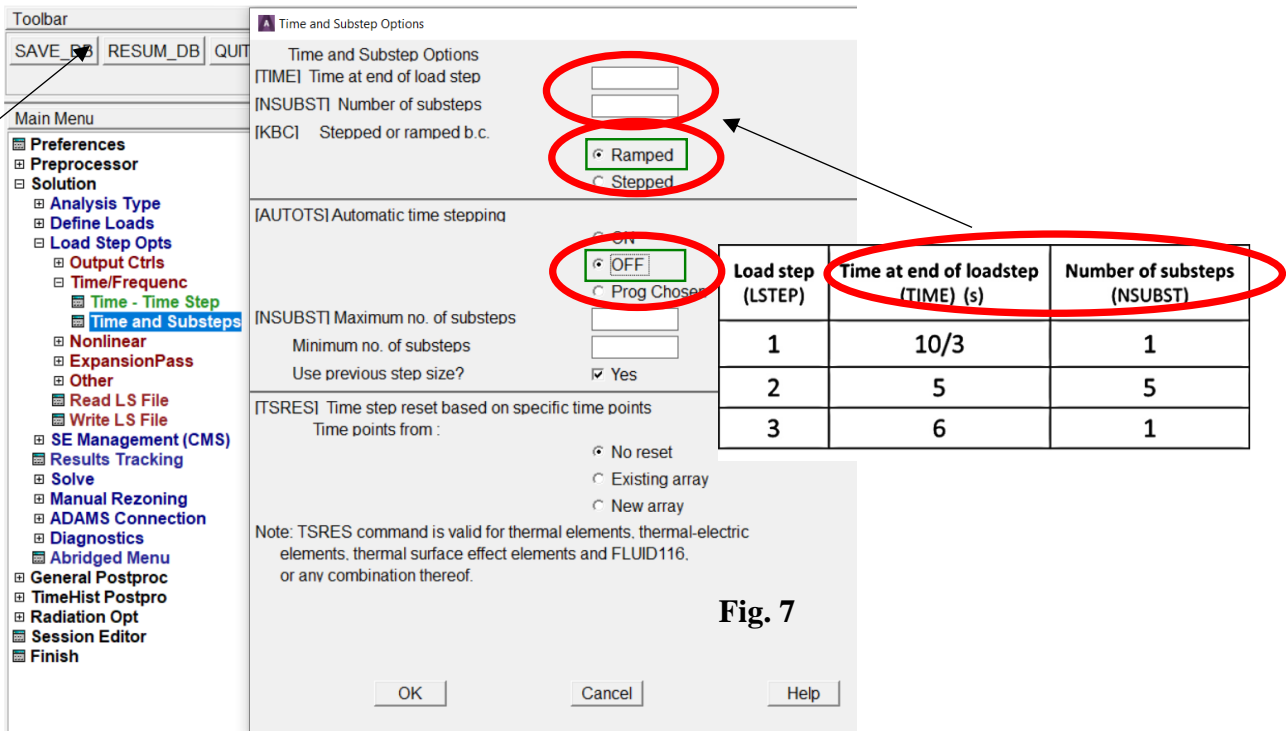

Fig. 7
The pressure in each load step is applied as ‘ramped’: 0->10/3, 10/3->5, 5->0 (MPa). In the ‘Analysis Options’ (Fig. 6) the Large Deformations are turned ON and in the ‘Time and Substeps’ the automatic time stepping is turned OFF (to get results in chosen time moments) – see Fig 7.
b) Set and write Load Steps (apply Pressure as in point 6, and Options as in Fig 7 and 8):
- LS1: apply  $p = 10/3$  MPa, specify proper TIME, NSUBST, FREQ (Fig. 7, 8 and 9), and **LSNUM = 1**,